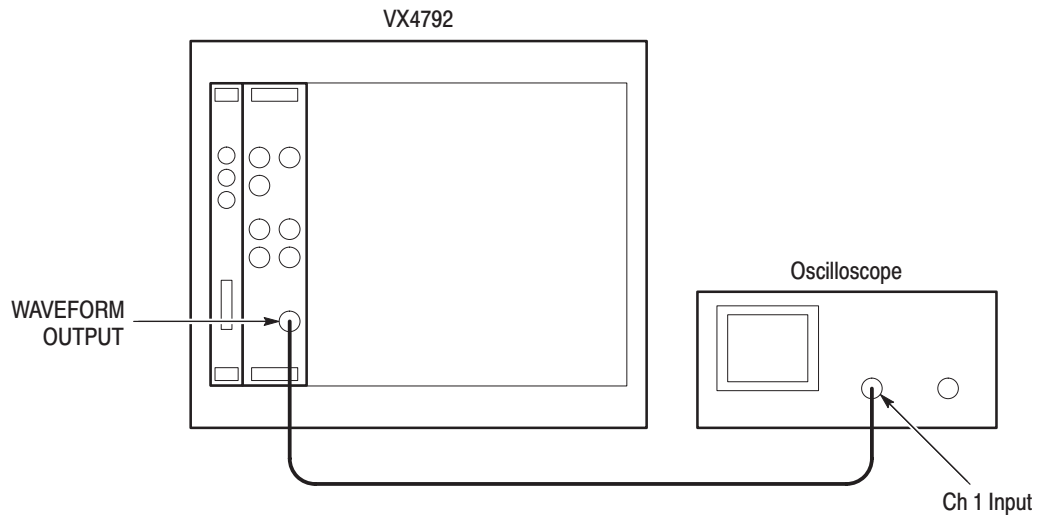

Figure F-15: Pulse Response Initial Test Setup
1. *Install test setup and set test equipment controls (see Figure F-15):*